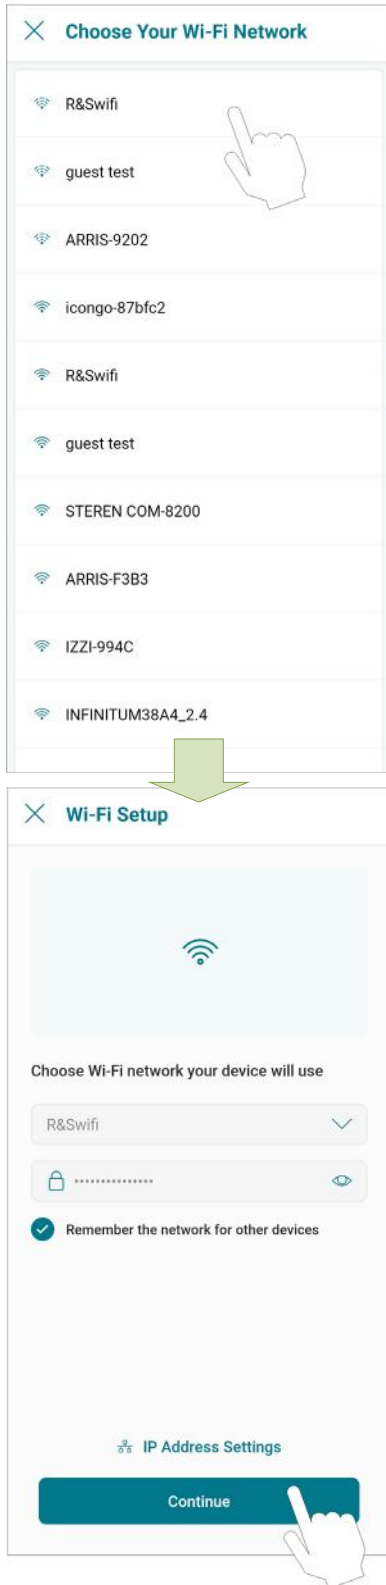

Figure 79. Wi-Fi Setup
- The "Wi-Fi setup" screen will appear. Select or enter the Wi-Fi network you want your unit to be connected to and enter the network password. See Figure 79.